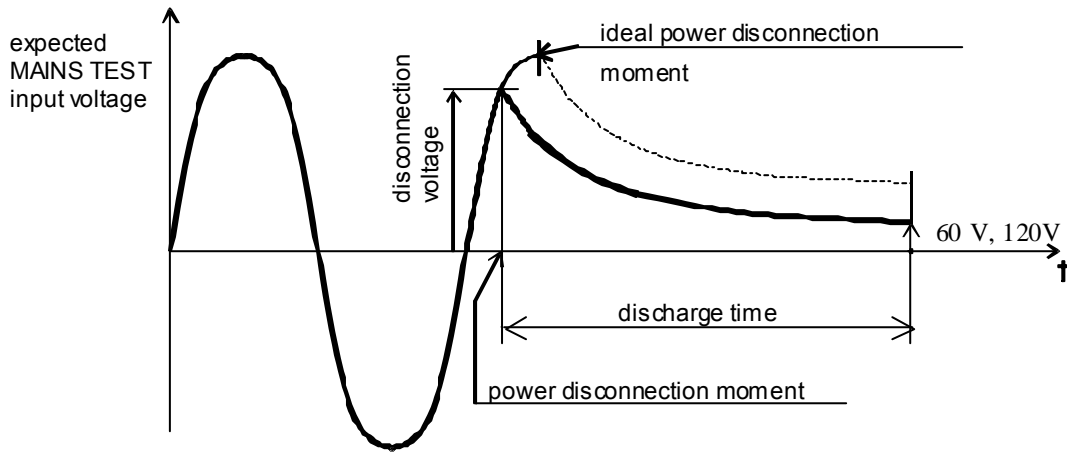

Fig. 25. Voltage on MAINS TEST input
STEP 6. Pull out double connection element and wait for the result to be displayed. If the disconnection voltage is high enough to carry out a measurement, (see fig. 25) **Start** message is displayed and the measurement will be performed. If the voltage is not high enough then the result of 0.0 s and **Repeat** message are displayed. In this instance repeat measurement from STEP 3. If the result 0.0 s and **Repeat** message reappears repeat measurement 5 to 10 times successively. The result 0.0 s can then be accepted as valid. **Timeout** is displayed if the double connection element is not pulled out in 10 s, or discharging time is higher than 10 s.
- STEP 6.** Pull out power supply connector and wait for the result to be displayed. If the disconnection voltage is high enough to carry out a measurement (see fig. 25), **Start** message is displayed and the measurement will be performed. If the voltage is not high enough then the result 0.0 s and **Repeat** message are displayed. In this instance repeat measurement from STEP 3. If the result 0.0 s and **Repeat** message reappears repeat measurement 5 to 10 times successively. The result 0.0 s can then be accepted as valid. **Timeout** is displayed if the double connection element is not pulled out in 10 s, or discharging time is higher than 10 s.